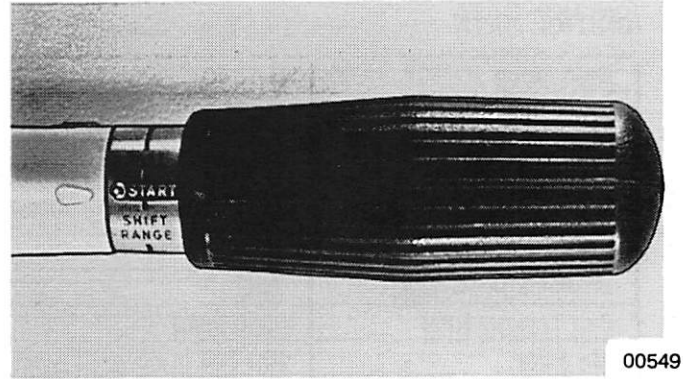

Figure 8. "Start" Position Adjustment
3. With engine running in neutral gear, turn twist grip to obtain 2400 to 2700 RPM. At this point, "Start" position on twist grip should align with indicator arrow on tiller handle. (Figure 8)